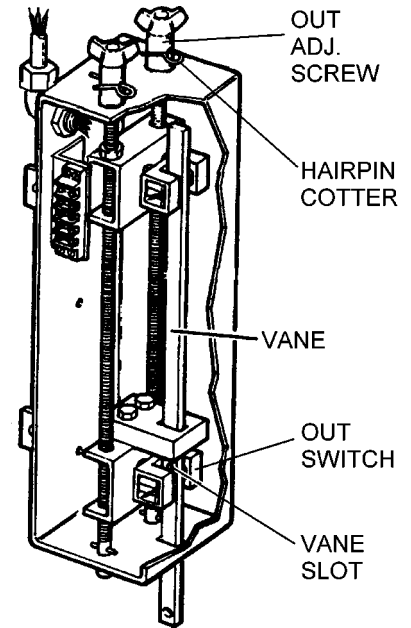

Figure 55A
3. Remove cover from Opto Box (See Figure 55A).